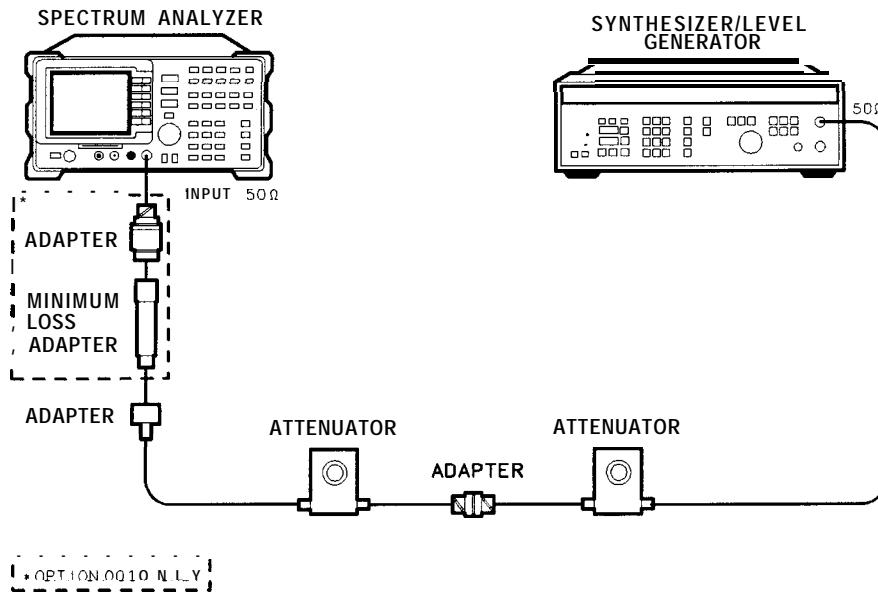

Figure 1-8. Reference Level Accuracy Test Setup
2. Connect the equipment as shown in Figure 1-8. Set the 10 dB step attenuator to 10 dB attenuation and the 1 dB step attenuator to 0 dB attenuation.